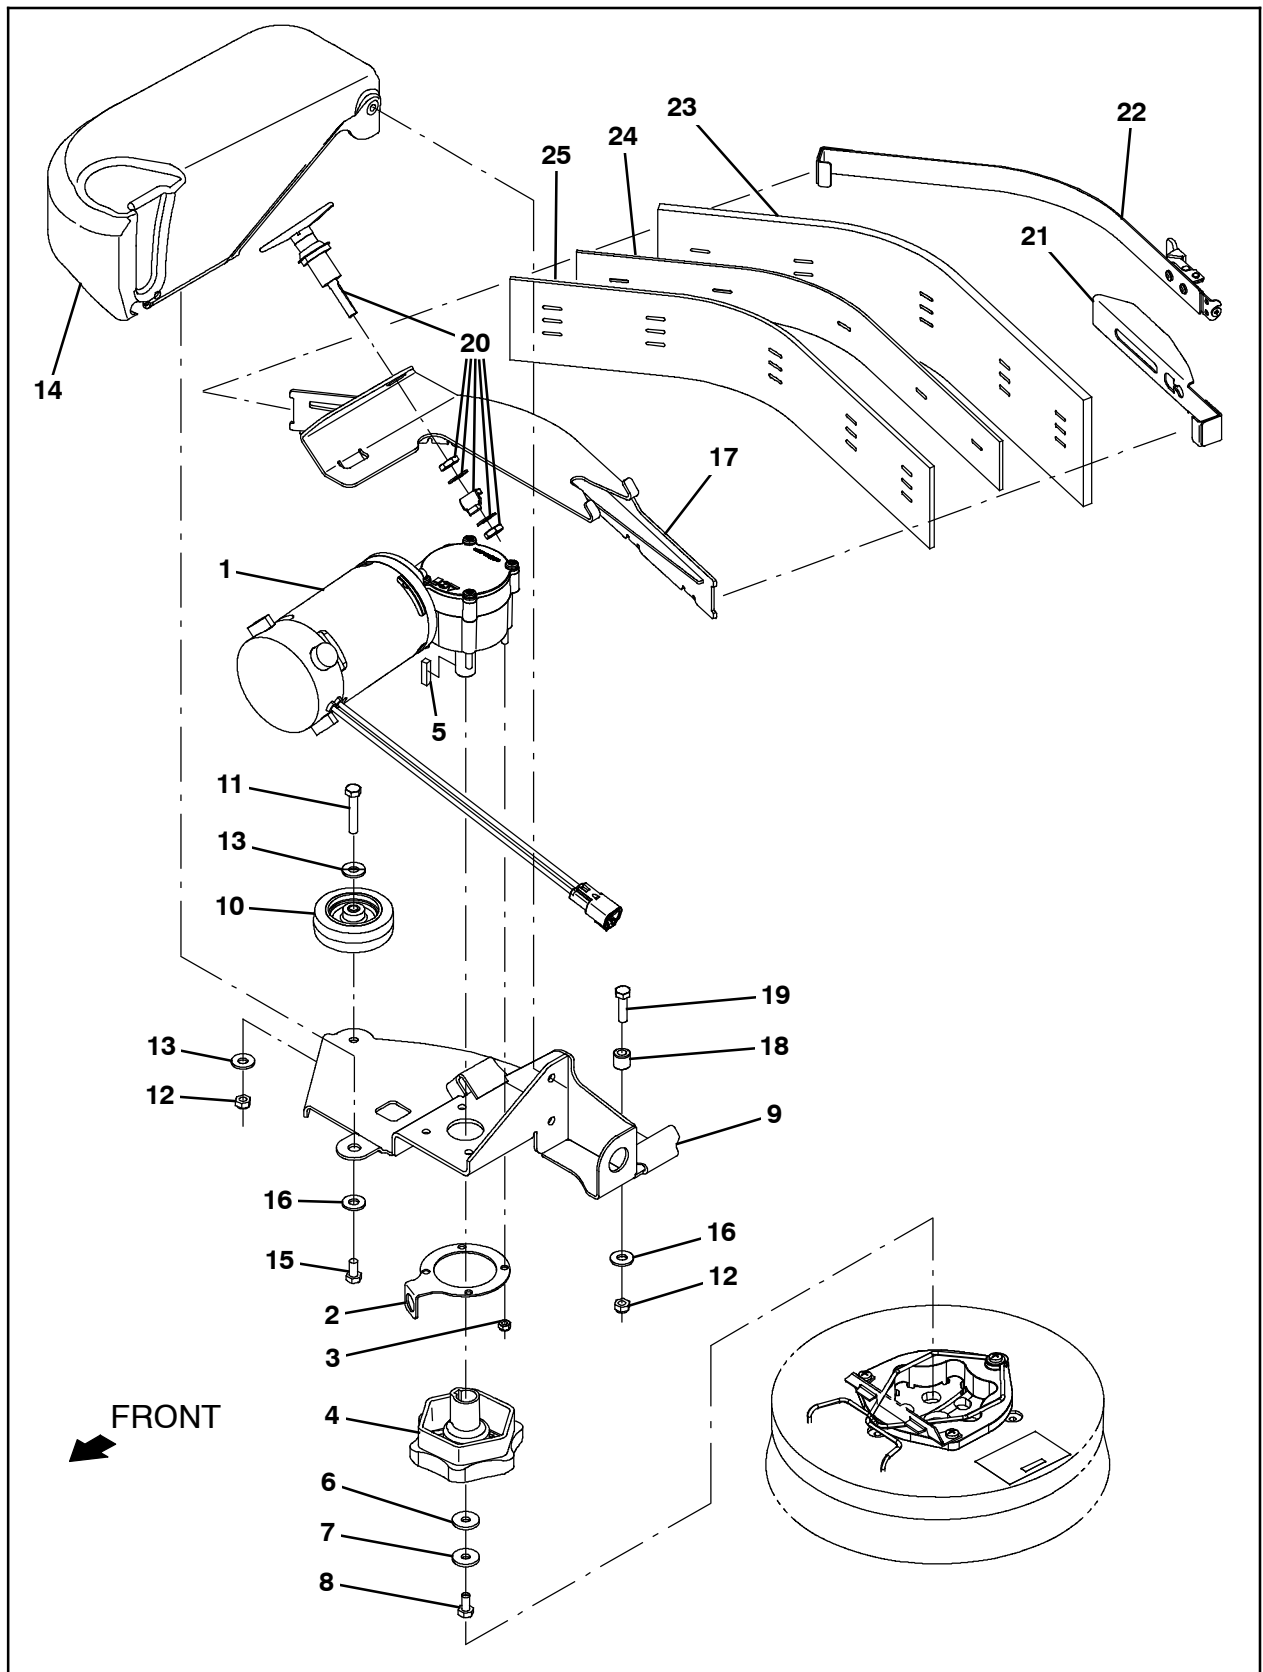

FIG. 32
59. Install the brush onto the side brush assembly. Refer to Operator Manual for instructions how to install side brush. (Fig. 32)